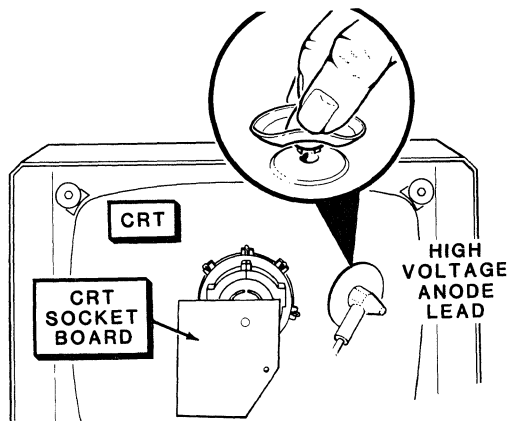

Figure 8.8
6. Refer to Figure 8.8 and reconnect the high voltage anode lead to the CRT.